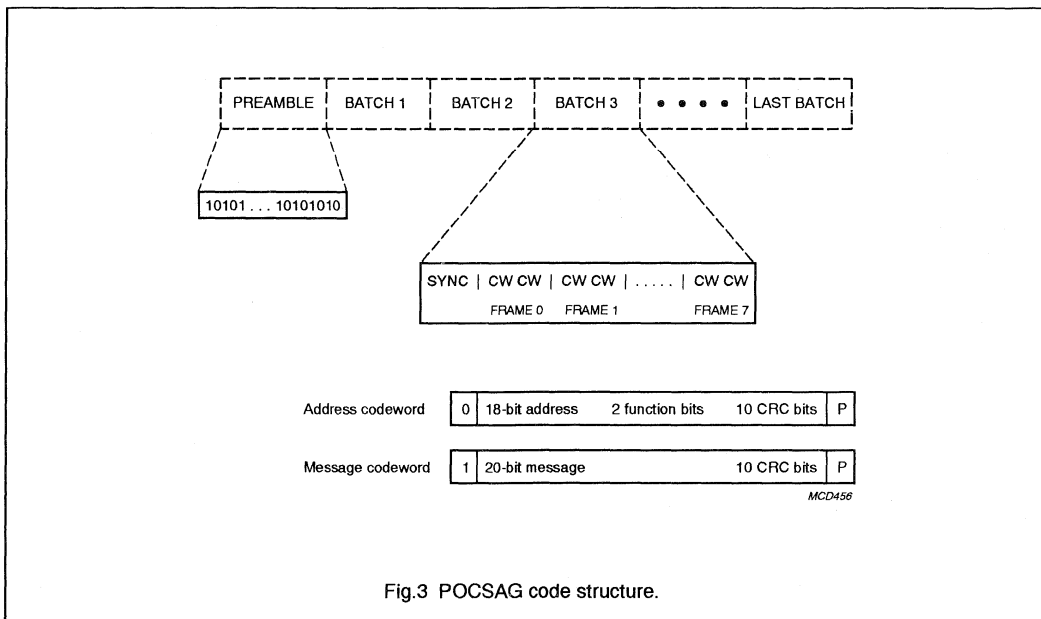

Fig.3 POCSAG code structure.
A transmission using the "CCIR Radio paging Code No. 1" (POCSAG code) is constructed in accordance with the following rules (see Fig.3).
**Address** code-words are identified by an MSB of logic 0 and are coded as shown in Fig.3. A user address or RIC consists of 21 bits. Only the upper 18 bits are encoded in the address code-word (bits 2 to 19).
**Message** code-words are identified by an MSB of logic 1 and are coded as shown in Fig.3. The message information is stored in a 20-bit field (bits 2 to 21). The data format is determined by the call type: 4 bits per digit for numeric messages and 7 bits per (ASCII) character for alphanumeric messages.